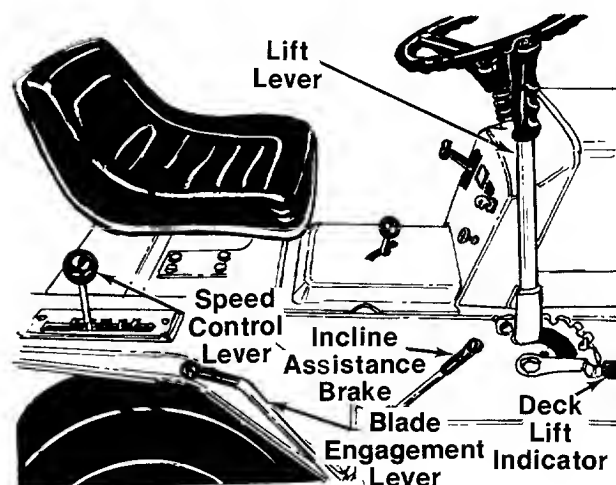

FIGURE 10.
The speed control lever is located on the right tender. It allows you to regulate the ground speed of the lawn tractor. See figure 10. To select the ground speed, depress clutch pedal. Push speed control lever outward and move backward to slow lawn tractor, move forward to increase speed. When desired speed has been obtained, release lever in that position. Whenever clutch is engaged, unit will automatically go to the pre-set speed.
When stopping on a hill, hold the incline assistance brake lever back while you release the clutch-brake pedal until the lawn tractor begins to move, then release the lever. This lever permits smoother starts and clutch engagement by holding the tractor during the brake release/clutch engagement operation. See figure 10.
The lift lever is located on the right side of the unit. It is used to raise and lower the cutting deck and other attachments. Move the lever to the right, then forward or backward to the desired position and release. See figure 10.
The deck lift indicator marks the position being used for the lift lever. Select the lift lever position desired, press the indicator lever outward, move it to the position immediately below the lift lever and release the indicator lever. See figure 10.
3. Place the blade engagement lever in the DISENGAGED position. See figure 10.